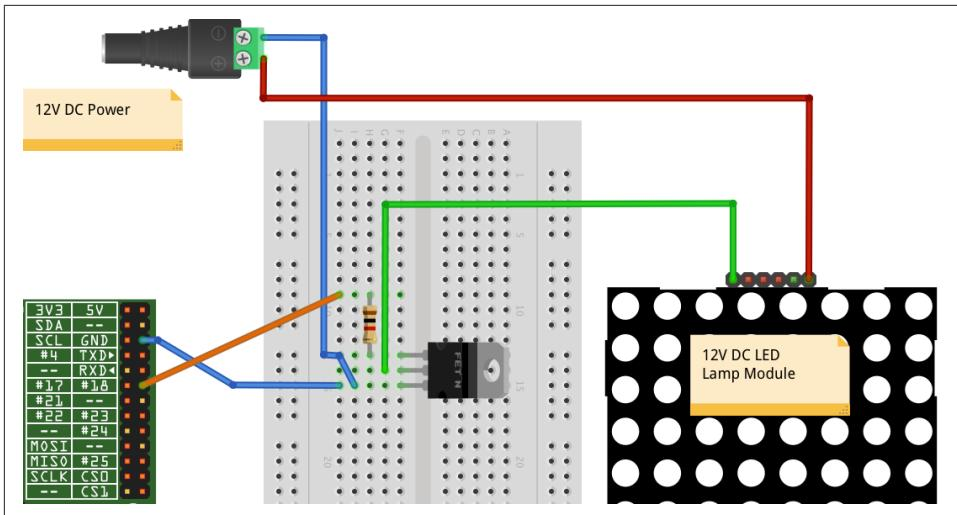

Figure 10-4. Controlling large currents with a MOSFET
**Figure 10-4** shows how you can connect a MOSFET on a breadboard. Make sure that you correctly identify the positive and negative supply leads for the LED module.